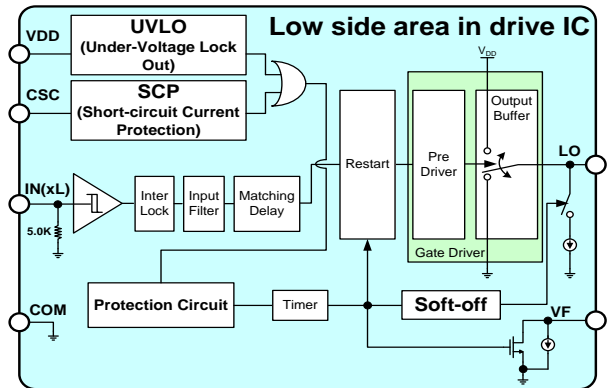
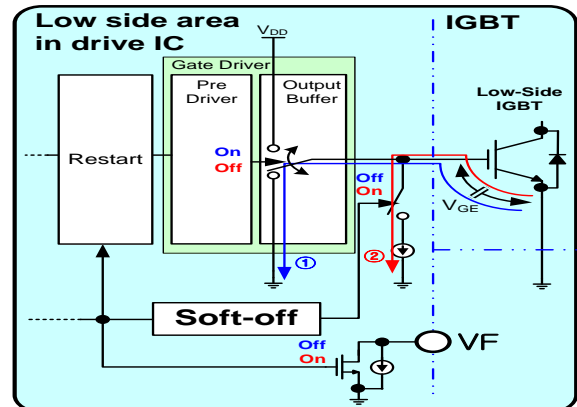

Figure 19. Internal Block Diagram of Gate Drive IC
Figure 20. Operating Sequence of Soft Turn-Off
An internal block diagram of low side and operation sequence of soft turn-off function are shown in Figure 19 and Figure 20. This function operates by two internal protection functions (UVLO and SCP). When the IGBT is turned off in normal conditions, gate drive IC turns off the IGBT immediately by turn-off gate signal ($IN_{(xL)}$) via gate driver block. Pre-driver turn-on output buffer of gate driver block, path ①. When the IGBT is turned off by a protection function, the gate driver is disabled by the protection function signal via output of protection circuit (disable output buffer, high-Z) and output of the protection circuit turn-on switch of the soft-off function. V_{GE} (IGBT gate-emitter voltage) is discharged slowly via circuit of soft-off (path ②).